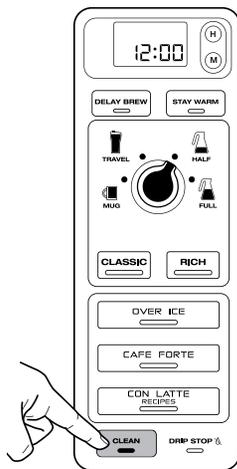

Fig. 9
- 8 Once all parts are securely in place, press the Clean button to thoroughly clean the machine before first use. **(Fig. 9)**